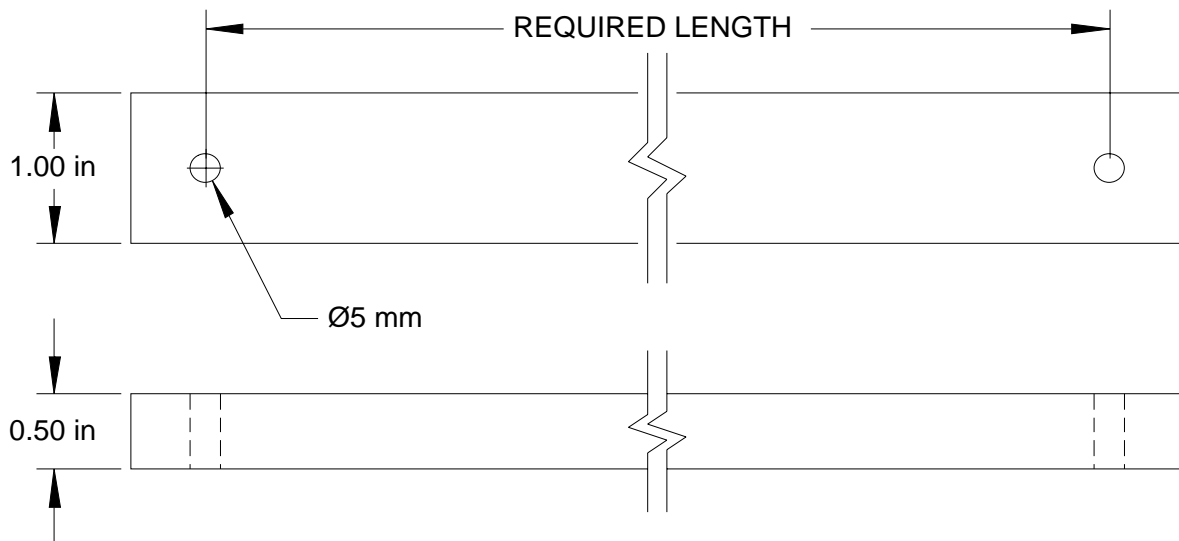

Figure 18
5. To set the rear hole distance from the front holes you will need to cut two pieces 1" (25.4mm) x 24" (610mm) from 1/2" (12.7mm) thick plywood. Drill two 5mm holes that are spaced apart what ever distance that you require as shown in Figure 18. **Note:** Typical distances for 24" (610mm) deep cabinets is 480mm that corresponds to the mounting hole distance of standard 22" drawer guides. Typical distance for upper cabinet is 192mm.